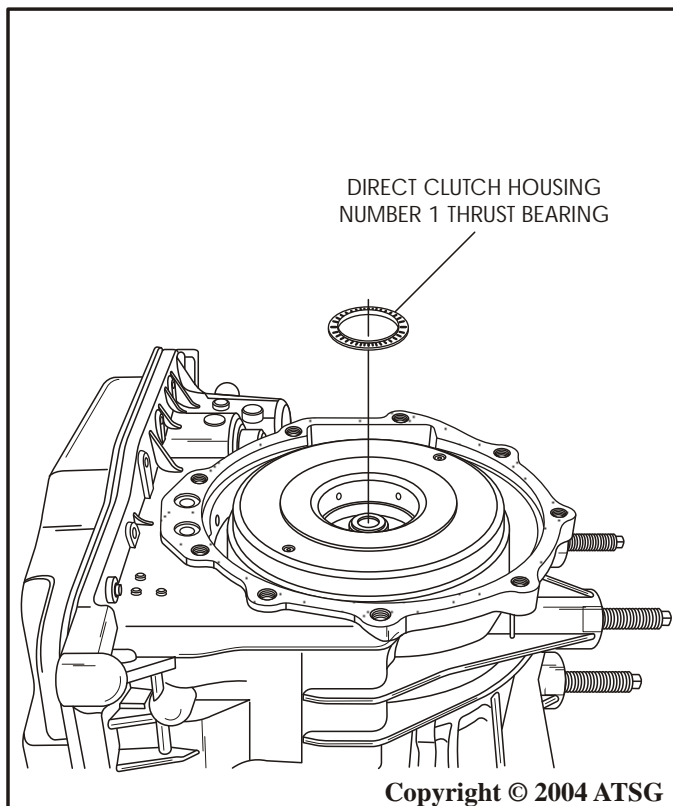

Figure 28
15. Remove the direct clutch number 1 thrust bearing, as shown in Figure 28.